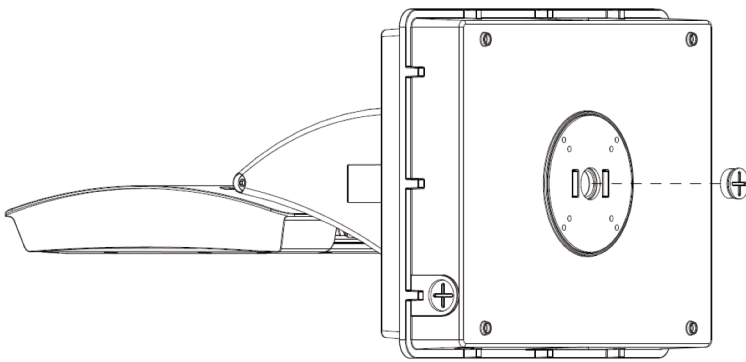

Fig. 1
1. Use a flat head screwdriver to unscrew the cap from the back of the EM extension box (**Figure 1**).